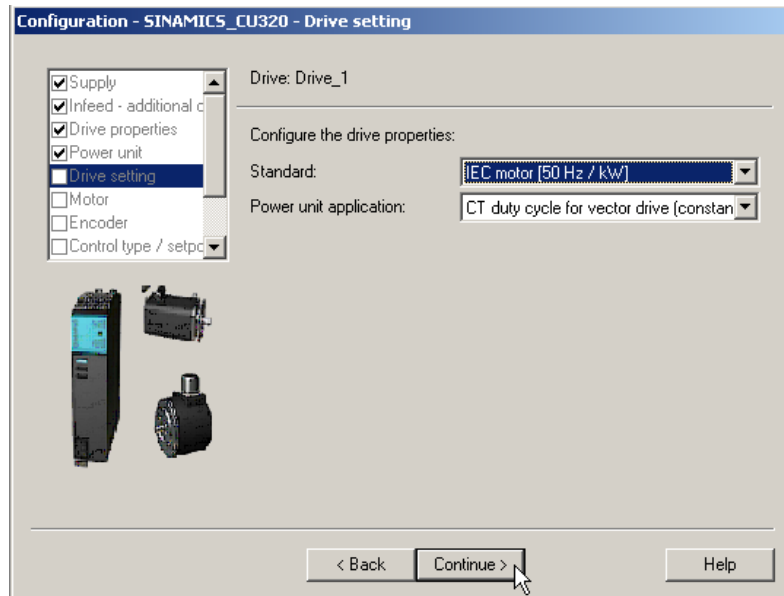

Fig. 3-18 Drive settings
The following dialog box (see Fig. 3-18) is displayed when you configure an induction motor with vector control.
10. Choose the “Standard” and “Power unit application” as shown in Fig. 3-18 (the default setting is “Standard” and can be left as it is). Choose **Continue >**.